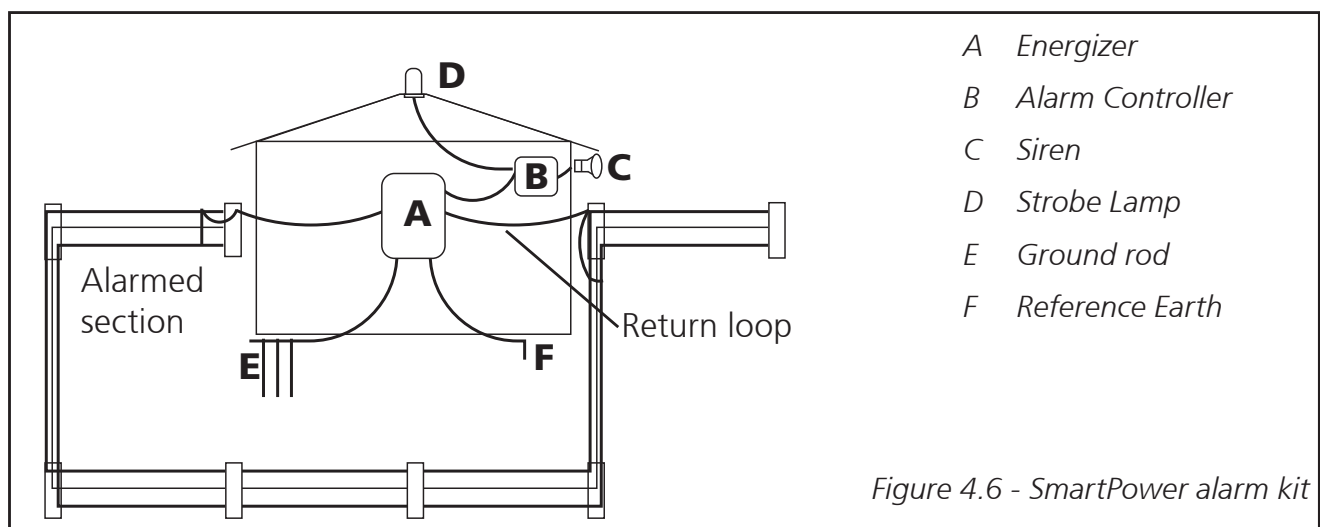

Figure 4.6 - SmartPower alarm kit
- Auto-dialer compatible (MBX version only) (see *Figure 4.6*)
- Includes security alarm features for monitoring a fence return loop. Alarms sound when the fence return loop is broken or shorted out (see *Figure 4.6*).
Note: If you are using a SmartPower energizer the ground monitor/alarm will indicate when the ground system requires attention (see Figure 4.6).